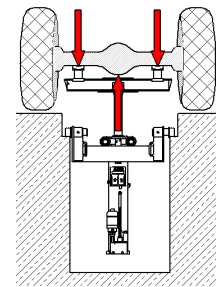
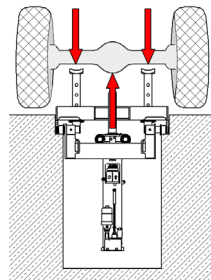
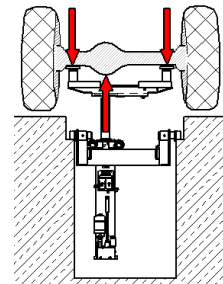

Fig. 19
Fig. 21
Fig. 22
- *The load center must always be positioned centrically above the lifting device. → Fig. 19; Fig. 21; Fig. 22*